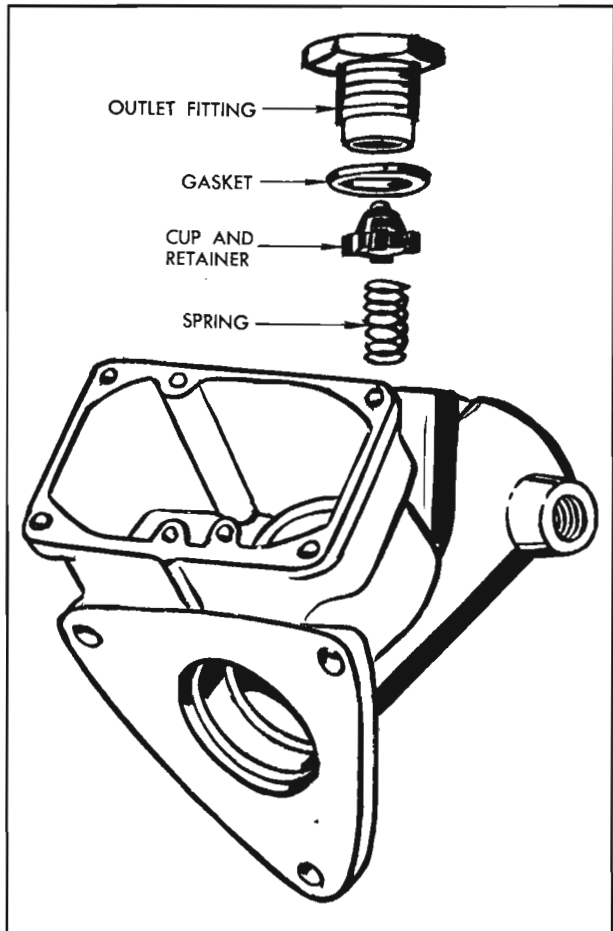

Figure 9-39—Removing or Installing Residual Check Valve
2. To assemble residual check valve, assemble new gasket over threads of hydraulic outlet fitting. Insert cone end of check valve cup and retainer in fitting. Place check valve spring in recess of retainer. Hold hydraulic master cylinder so that outlet hole is straight down and thread outlet fitting and check valve assembly into hydraulic cylinder hand tight. See figure 9-39.